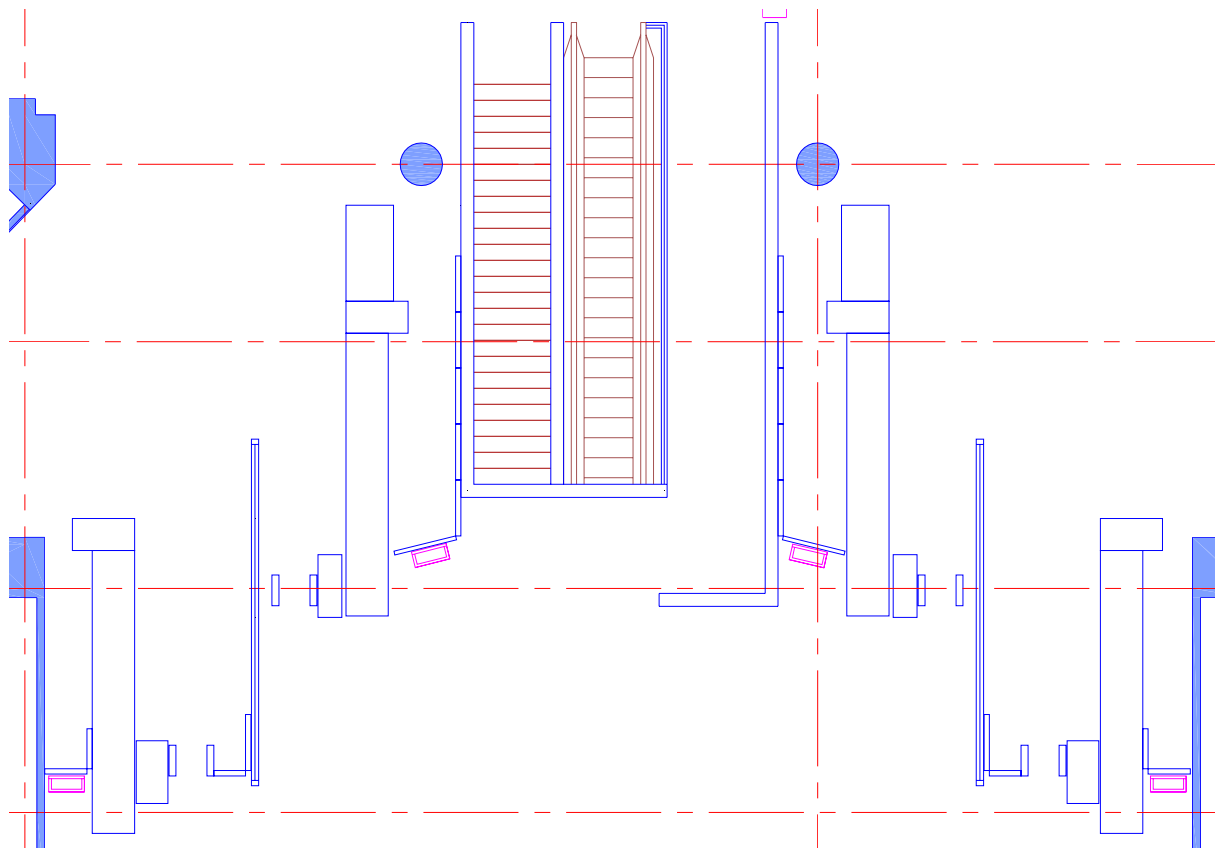

Figure 18: Security Equipment
- Measure a simple geometric shape such as a rectangle that encompasses the Security Area. See drawing below photo in Figure 18, as an example.